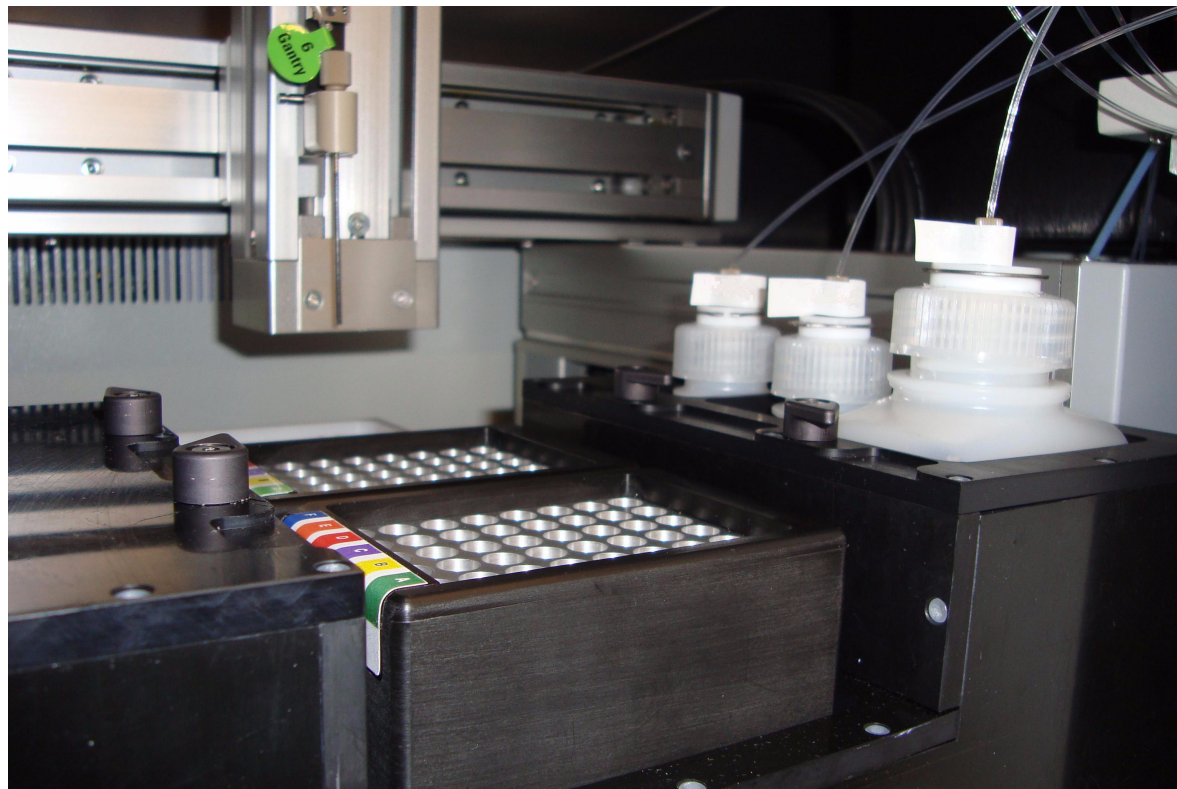

Figure 24 The Reagent Strip Block.
- Verify that the reagent strip blocks are oriented and seated properly in the chiller block. The block must engage the orientation key to fit properly. The orientation key (cut corner) is in the upper-left position when the block is placed on the instrument (see Figure 24).